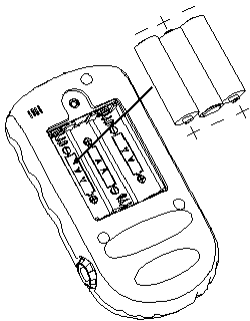

Figure 2-2
- ① If AA alkaline batteries (non-chargeable) are provided, then according to the polarity mark, insert three AA batteries into battery house, as shown in Figure 2-2.